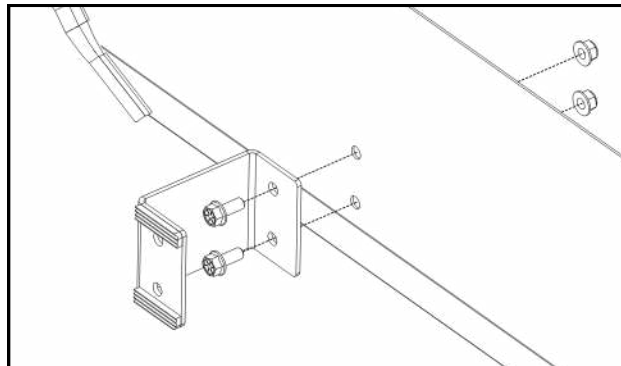

Figure 21.6 (SMV Sign Relocation Bracket)
- 21.6** Install the provided SMV sign relocation bracket to the lower rear panel with the rubber strips face away from the panel as shown in Figure 21.6.